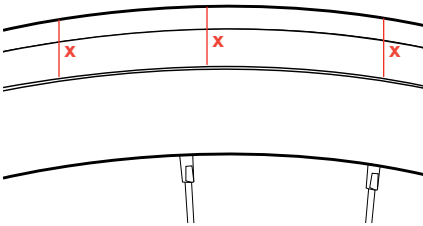

Figure 27. Correct. Make sure the mold line of the tire is equal (X distance) with the rim all the way around.
- Check for correct tire bead engagement in the rim (Figures 27 and 28).
- Re-check for correct tire bead engagement (Figure 27 and 28).